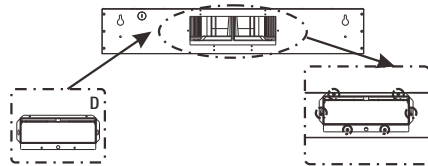

Fig.3
* (2) #8 X 3/8 screws are pre-installed.
- If the gap between cabinet and rear exhaust= 3/8in use 4 screw holes(Fig.3).